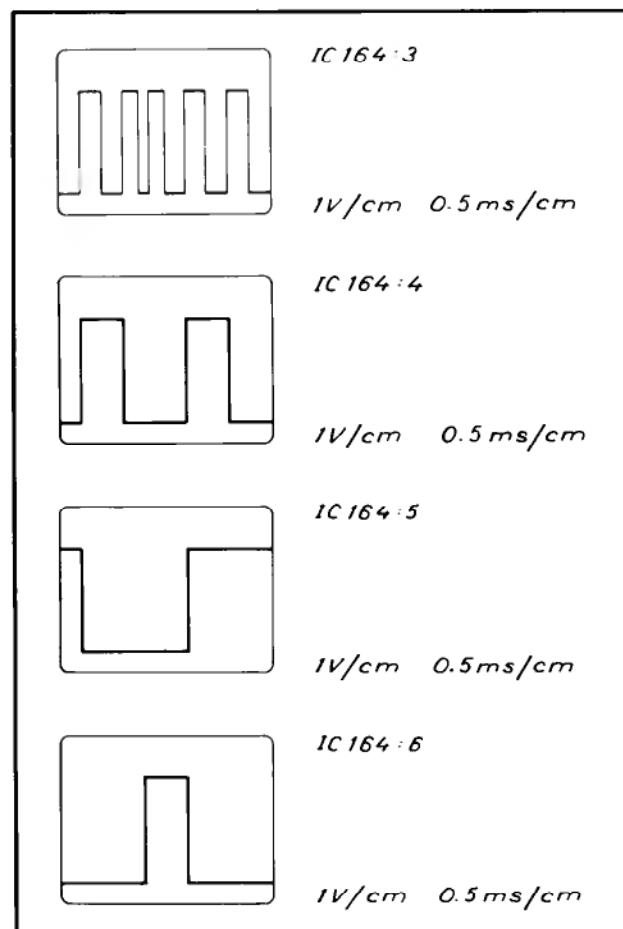
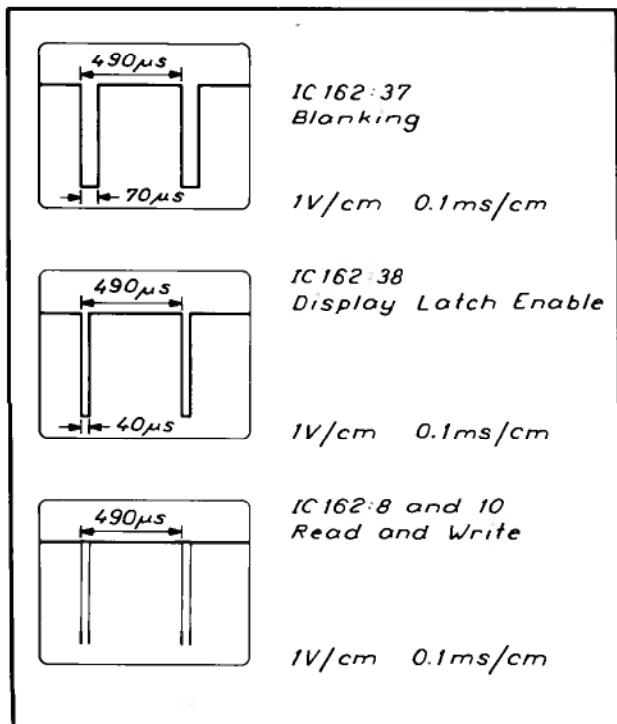

Fig. 5.1 If ALE is correct, check these signals.
Fig. 5.2 Signals to check on IC164.
- If a correct ALE signal is present at pin 11 of the microcomputer, check the signals as illustrated in Fig. 5.1. It is difficult to get a steady display on an oscilloscope, so these figures are only a schematic illustration of the display.
Notes to Fig. 5.1:
If the microcomputer signals are correct as illustrated in Fig. 5.1, continue with checking IC164; see Fig. 5.2.